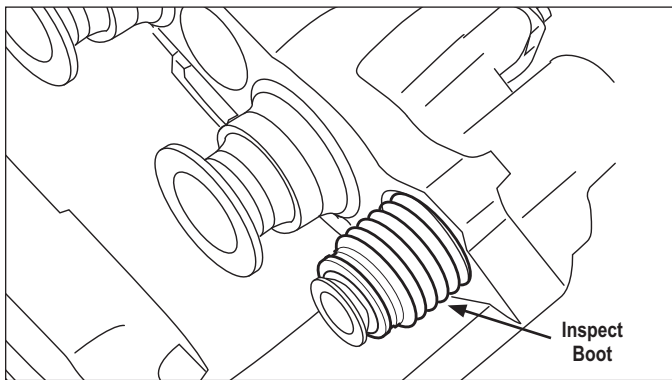
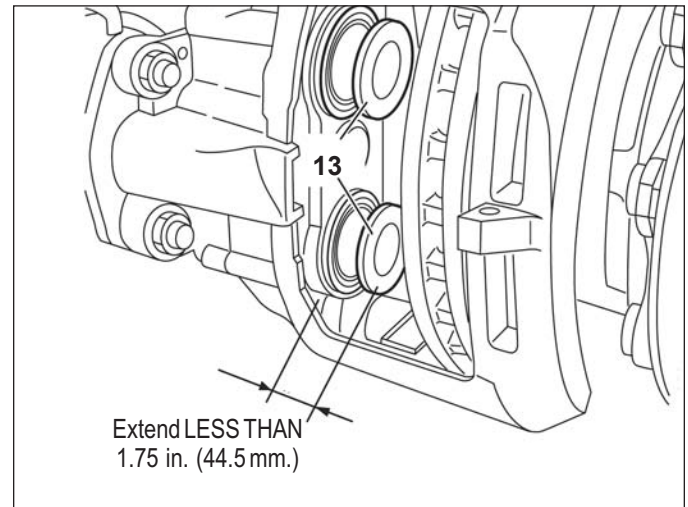

FIGURE 28 - GUIDE PIN BOOT INSPECTION (THIS IMAGE DOES NOT SHOW THE CARRIER)
FIGURE 29 - PERMITTED TAPPET EXTENSION
4.5.1 See Figures 28 and 29. With the wheel removed, remove the pad retainer bar (11). Temporarily replace the pads with two new pads (12). Attach a magnetic dial-gauge holder to the carrier (2) on the short bearing side of the caliper (1). Use the measuring point on the caliper (1) - see the callout in Figure 29. Press the caliper in the direction of the carrier (2) and set the dial-gauge to zero.
- 4.5.4 See Figures 28 and 29. With the pads removed, slide the carrier by hand to the inboard position (See Figure 28). By looking through the opening where the pads are installed — and also from below — inspect the inner boot (9) for each of the guide pins. **INSPECT FOR DAMAGE, CUTS AND CRACKS.** Replace damaged boots immediately to prevent dirt and/or moisture affecting the movement of the guide pins (See Section 5.4). Damaged or corroded guide pins will impair the operation of the brake.
CAUTION: NEVER EXTEND THE TAPPET MORE THAN 1.75 in. (44.5 mm). See Figure 29. Over-extending the tappet will result in the tappet losing engagement with the synchronizing mechanism. Since the mechanism can only be set at the manufacturing plant, the caliper/carrier assembly must be replaced if this happens.